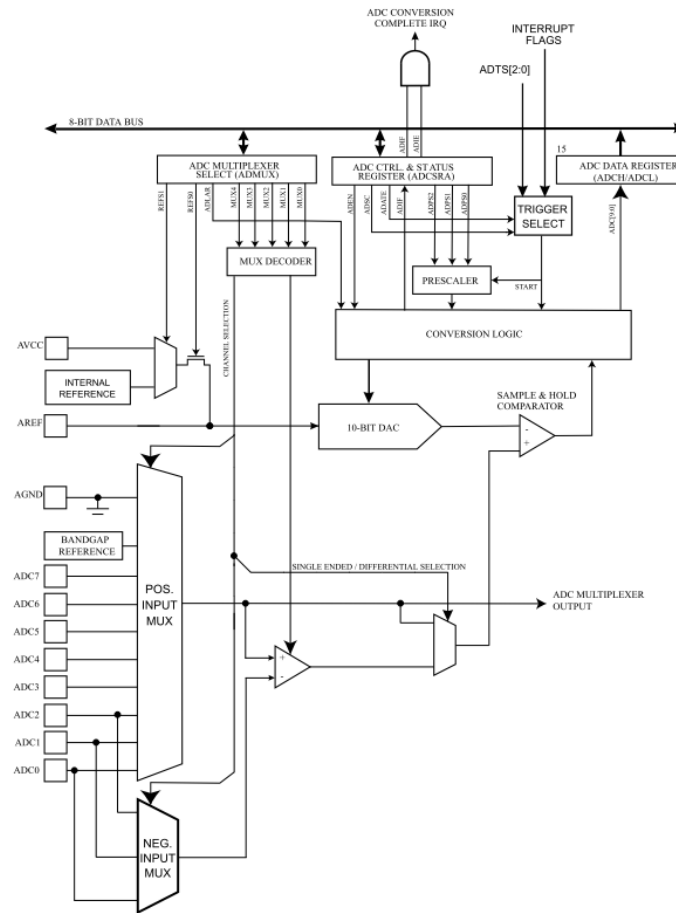

Figure 1 – Internal ADC of the ATmega1284P
2.3 Block diagram and operation in CL2bm1 board: A block diagram of the ADC is shown in Figure 1. The ADC has a separate analog supply voltage pin, AVCC. AVCC is connected on the VCC on CL2bm1 thru a simple RC Filter as shown in Figure 2, where also the main ADC connector JA1 is visible: